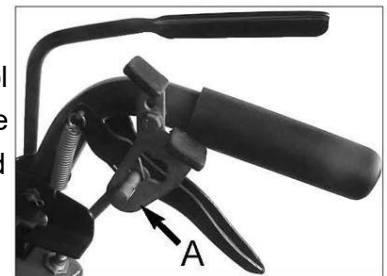

Figure 9
4. Move traction control rod "D" until there is approximately 1/2" clearance between the bottom of the traction control rod and the bottom of the slot in traction control lever lock "A"(figure 9).